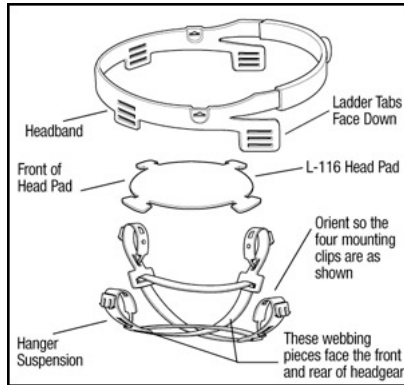

Fig. 4: Orienting the Head Suspension
- Spread out the hanger suspension. Be sure that the four ends with mounting clips are oriented as shown in Fig. 4, and that there are no twists in the webbing.
- Hold the headband over the hanger suspension so the four “ladder” tabs are pointing down (Fig. 4). The two uncrossed webbing pieces in the hanger suspension face the front and rear of the headgear, not the sides. Recheck that the webbing is not twisted.